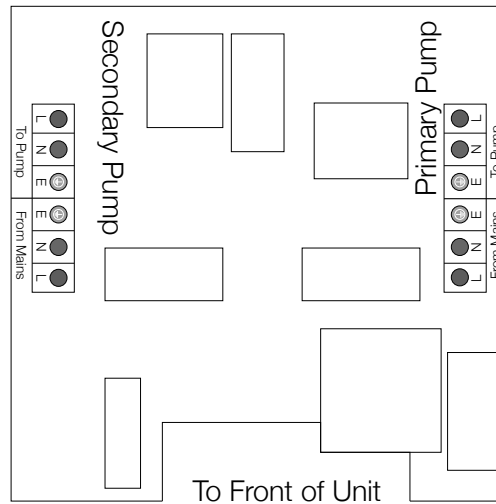

Figure 2. Wiring the lower circuit board - PowerMaxx2
6. Connect the supply to the "From Mains" and the corresponding pump to the "To Pump" (figure 2).